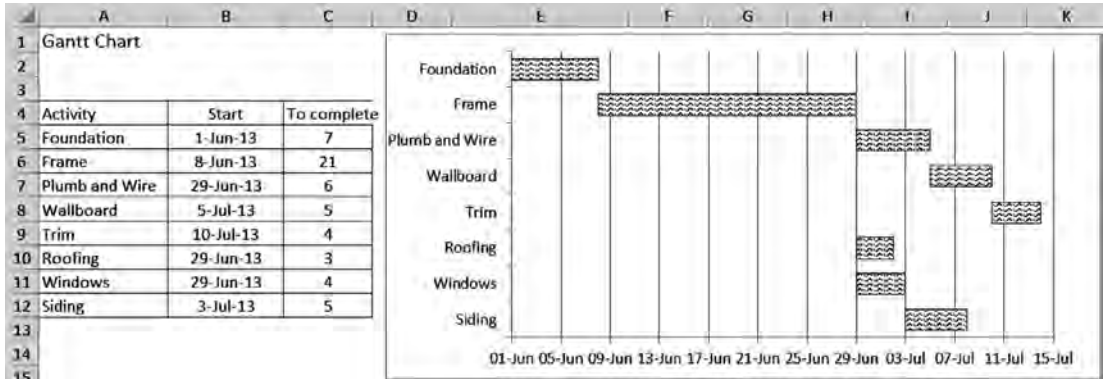

FIGURE 7.39
12. Make the Gantt chart shown in Figure 7.39.